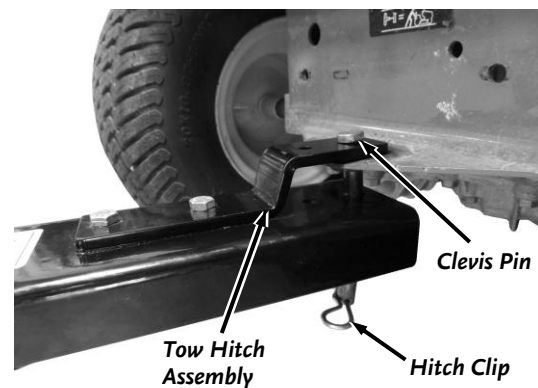

Figure 21
1. Lift the Chipper Tow Bar onto the Tractor Hitch and install the Hitch Pin and Hitch Clip to secure it (**Figure 21**).